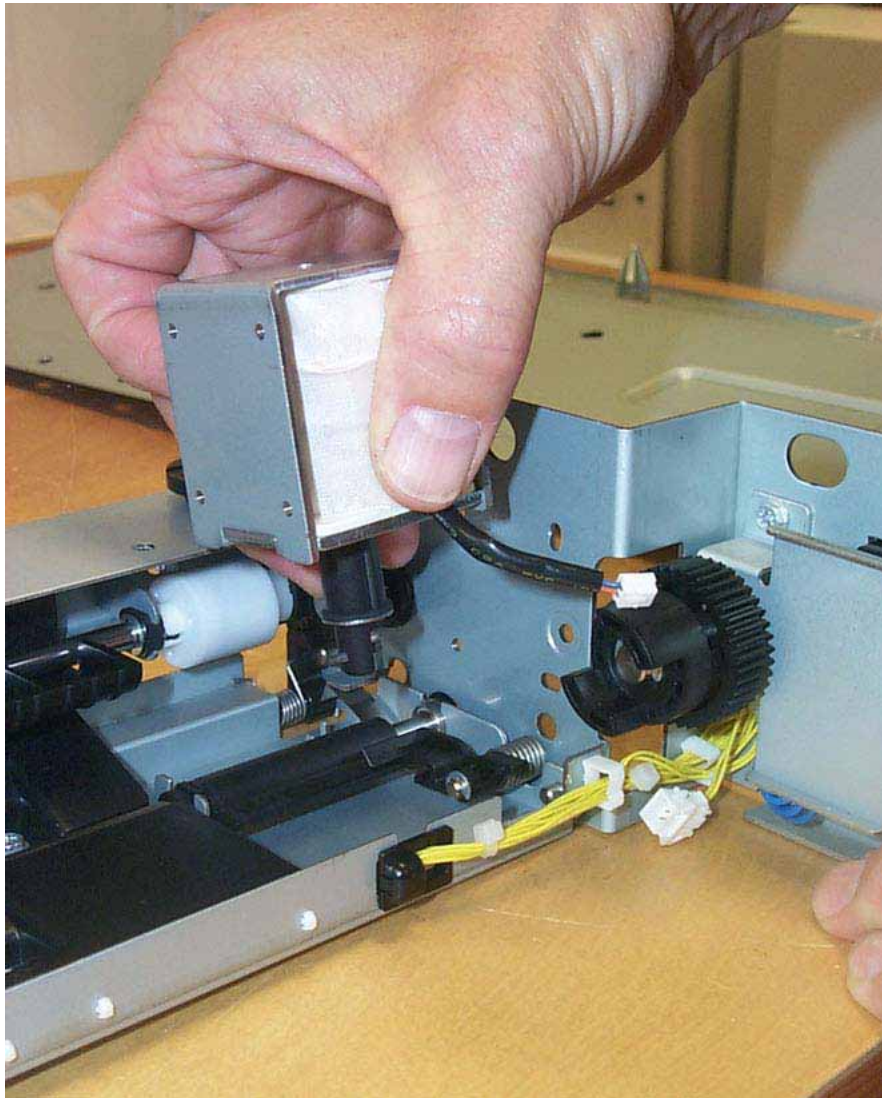

Figure 1 Removing the HCF Nudger Solenoid
- a. Disconnect the electrical Connector (1).
- b. Remove the (3) securing screws.
7. Remove the (2) screws securing the HCF Nudger Solenoid.
8. Remove the HCF Nudger Solenoid. Figure 1